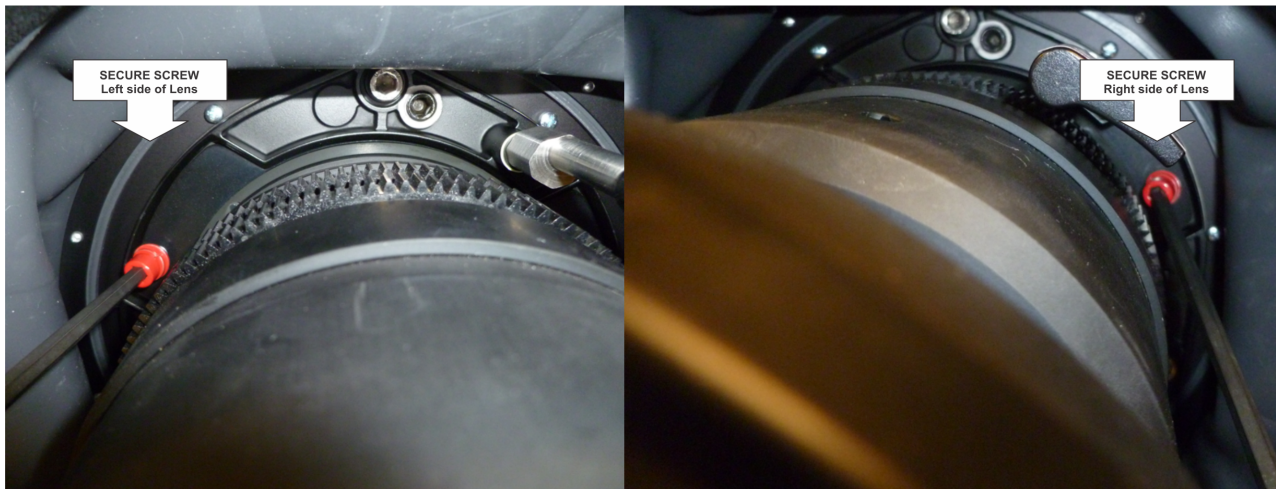

FIGURE 2-4
- For added stability such as motion applications, fasten the security screws provided with the lens mount. Refer to *Figure 2-4*.
6. Use a 5mm hex driver to fasten the red security screws provided with the lens mount (*Figure 2-4*), or hand tighten the lens retaining screws attached to the lens. **NOTES:** 1) *Recommended for heaviest lenses such as 0.73:1 and 1.2:1.* 2) *The red security screws MUST be installed when hoisting the projector overhead, or installing the projector in an overhead position.*